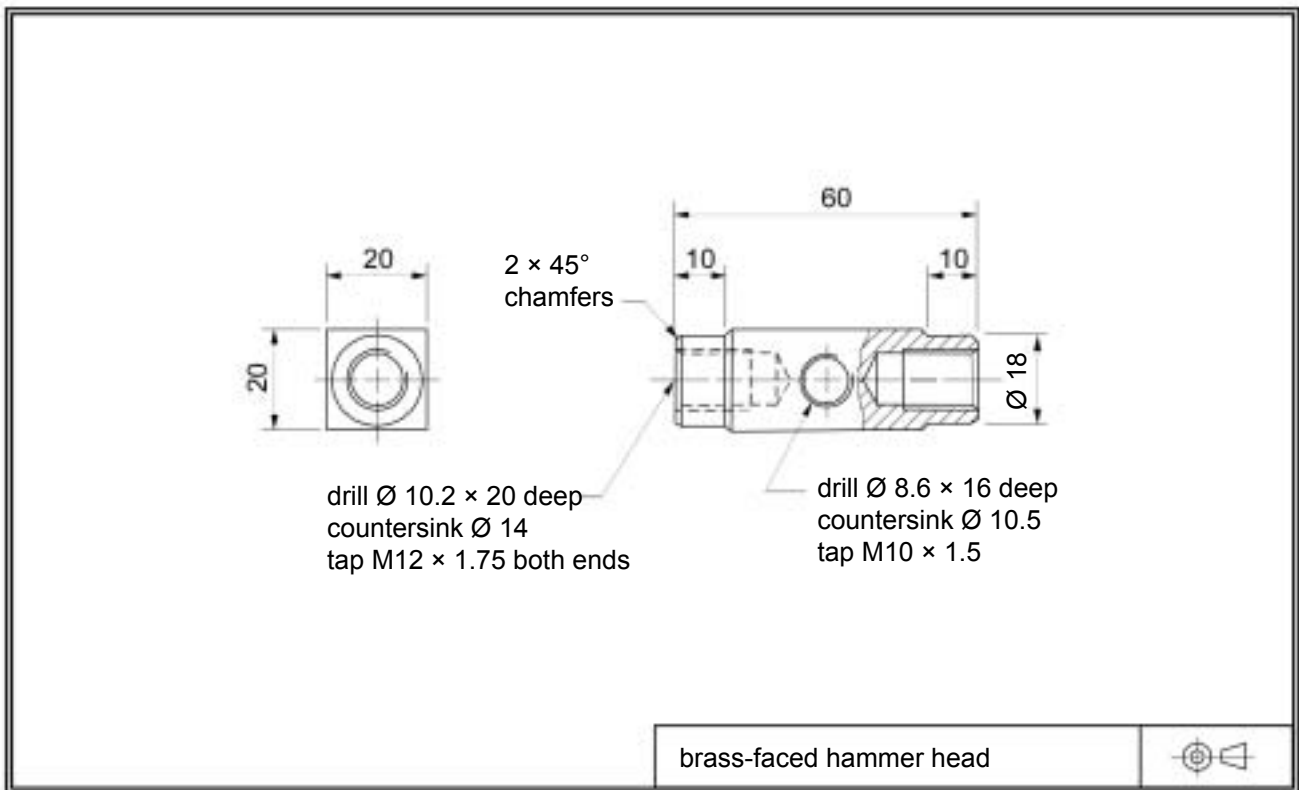

Figure 3
Figure 3 shows a detailed drawing of the hammer head.
c. What material is used for the hammer head in Figure 3?
The M12 threads in the hammer head in Figure 3 must be tapped square to the faces.
Complete the operational planning sheet for the hammer head (Figure 3) of the brass-faced hammer.